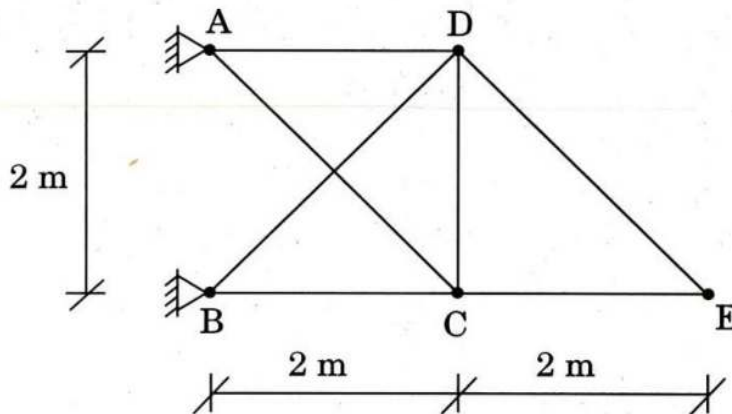

Figure 6
- (b) Determine the forces in all the members of the truss as shown in Figure 6 due to a fall of temperature of the member BD by 30°C. Cross-sectional area of all the members = 1500 mm². $\alpha = 0.00001/^\circ\text{C}$. 20